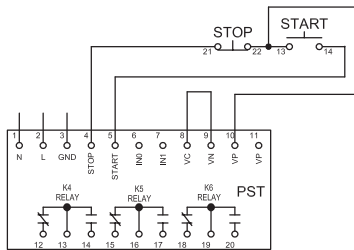

Figure 2: Standard connection PST
6. Connect the start/stop circuits: terminal 4, 5, 8, 9 and 10 according to Figure 2. **24 VDC only!**